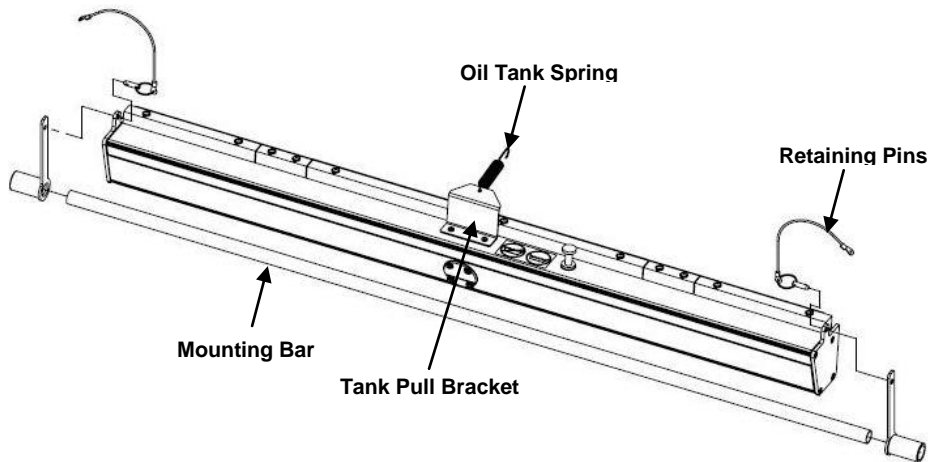

Figure 4- 5
2. Remove the retaining pins from the retaining brackets at each end of the oil tank (see Figure 4- 5).